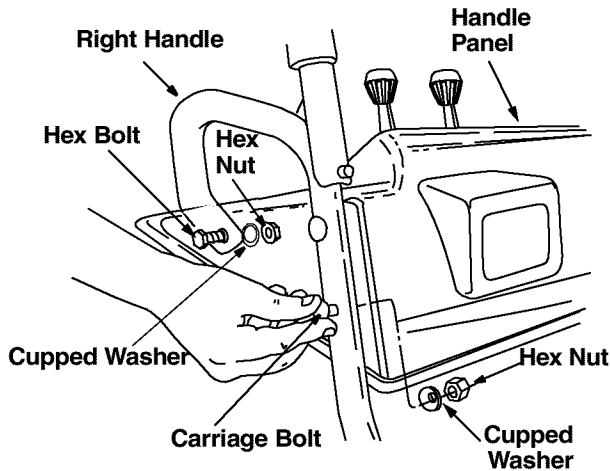

Figure 3
- Align the holes in the handle with the holes on two sides of the handle panel. See Figure 3.
- Attach the handle panel to the handle with two carriage bolts, cupped washers (cupped side against the handle panel) and hex nuts on each side. Align the contour of the carriage bolt head with the handle. See Figure 3. You will find these fasteners in Group B of the hardware pack. Repeat on the other side.
- Align the hole on the curved part of the right handle with the corresponding hole on the right side of handle panel making sure that this end of the handle is firmly placed in the slot on the handle panel. See Figure 3.
- Insert a hex bolt, cupped washer and hex nut from Group C of the hardware pack through these holes as shown in Figure 3. Tighten to secure. Repeat on the left side.